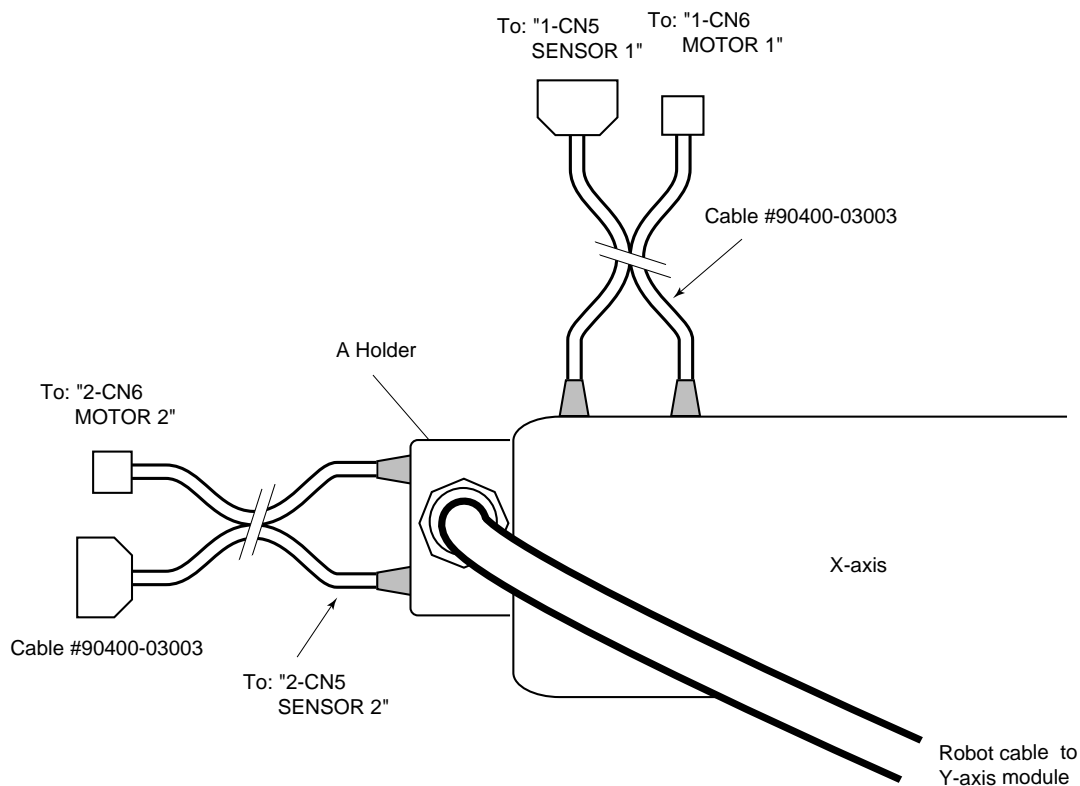

Figure 4-16. Connecting to an EXA or EXC Controller
- a. Connect the two barrel ends of the cable to the X-axis module as shown in Figure 4-16. These connectors have different pin sizes and cannot be installed incorrectly. The other ends connect to the controller connections marked “1-CN6 MOTOR 1” and “1-CN5 SENSOR 1”.
- b. Attach the A holder end of the robot cable to the motor end face of the X-axis module as shown in Figure 4-16 (refer to Section 4.3 for holder mounting).
- d. Connect the two barrel ends of the controller cable to the Y-axis module as shown in Figure 4-16. These connectors have different pin sizes and cannot be installed incorrectly. The other ends connect to the controller connections marked “2-CN6 MOTOR 2” and “2-CN5 SENSOR 2”.